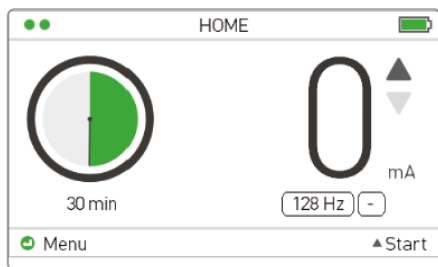
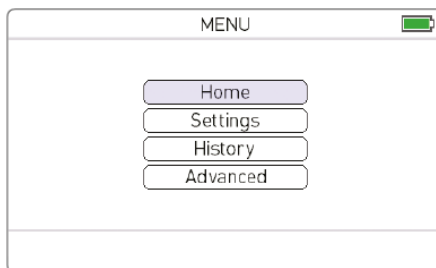

Figure 21. Home
Figure 22. Menu
2. At HOME (see figure 21), press  to access MENU (see figure 22).